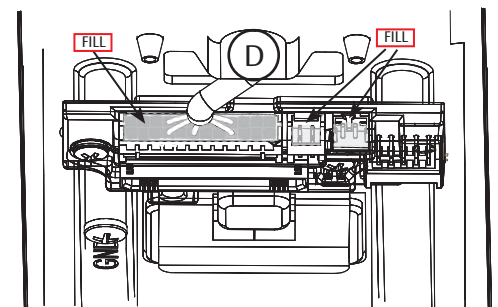

Fig. 10c
- Ensure all openings on back of secured reader connector are covered completely with grease (Fig. 10c).